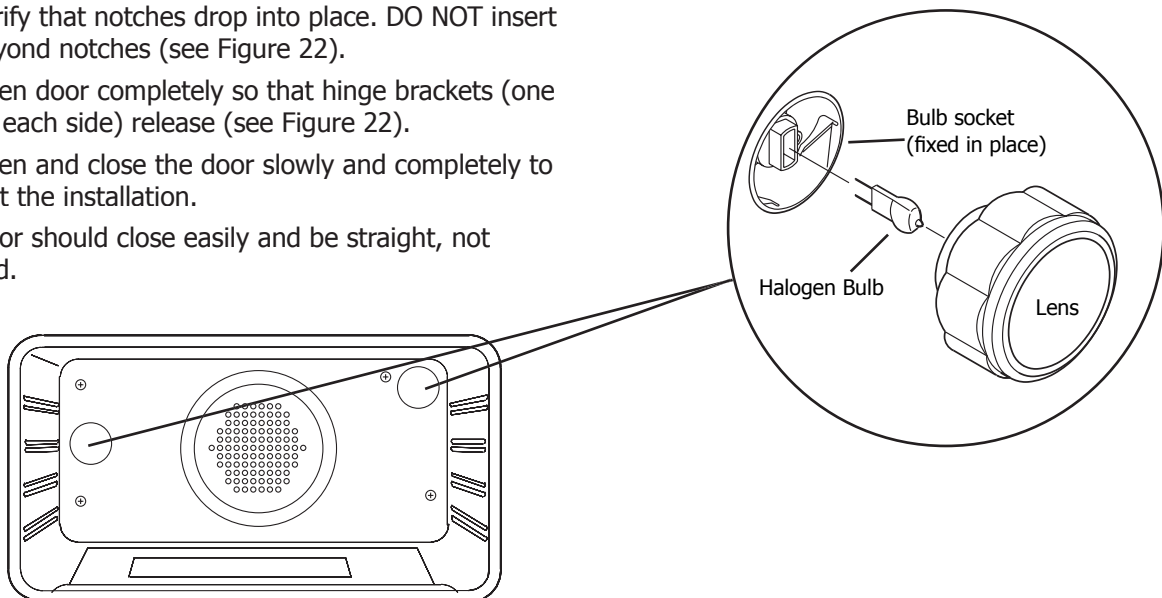

Figure 23: Oven Light
- Each light assembly consists of a removable lens, a light bulb and a light socket housing that is fixed in place (see Figure 23, next page).
### To replace a light bulb (see figure 23, next page):